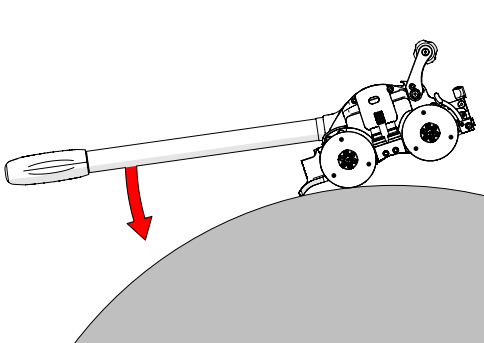

Fig. 185 - Pivot away from scan surface using pry point
3. When the front two wheels of the crawler separate from the scan surface, continue to press down on the manipulation handle (*Fig. 185*).